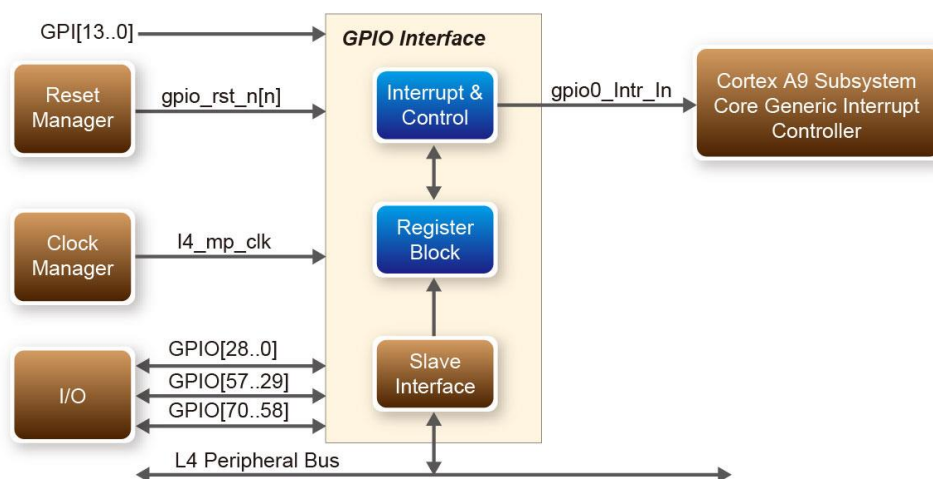

**Figure 6-1** Block diagram of GPIO demonstration
**Figure 6-1** shows the function block diagram of this demonstration. The users LED and KEY are connected to the **GPIO1** controller in HPS. The behavior of GPIO controller is controlled by the register in GPIO controller. The registers can be accessed by application software through the memory-mapped device driver, which is built into Altera SoC Linux.